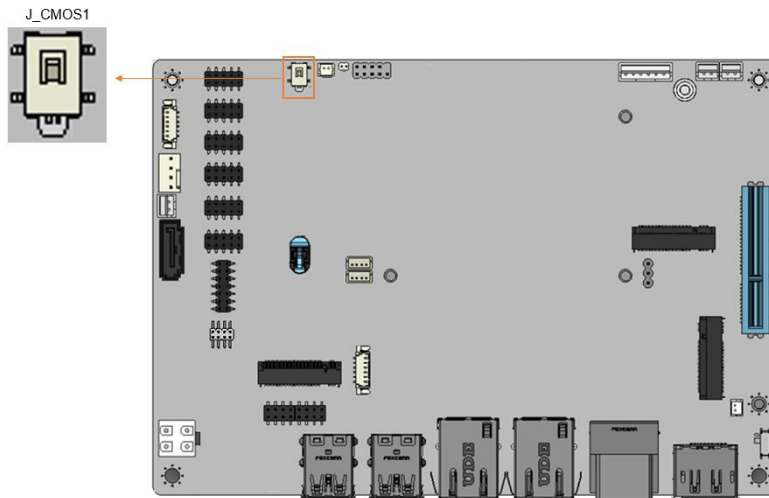

Figure 3-7: Clear CMOS Jumper Location
- CN Location:** See Figure 3-7